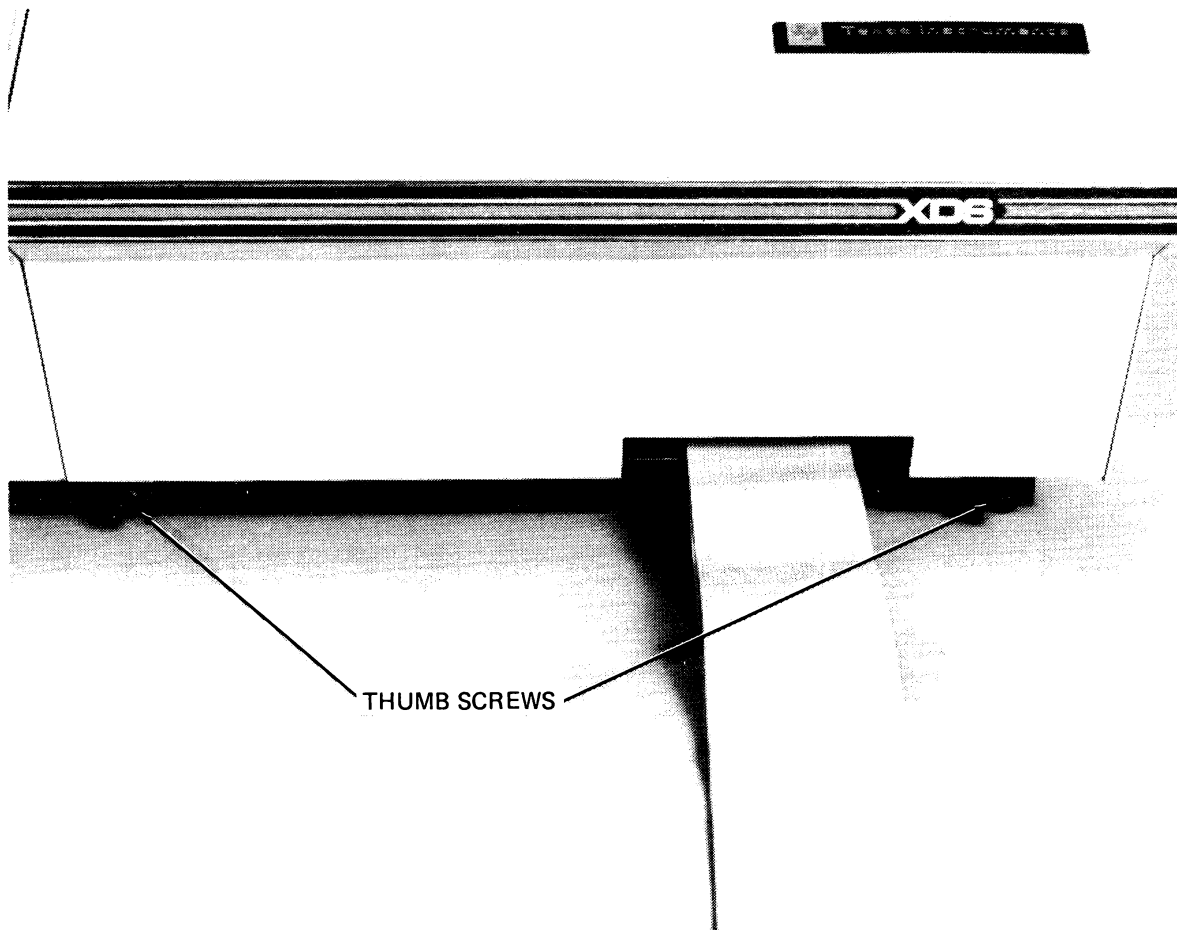

FIGURE 2-1. FRONT VIEW OF THE XDS
1. Locate and loosen the two thumb screws located on the bottom section of the front panel, reference Figure 2-1 for screw location. Note that the thumb screws are retained in the front panel. Use a flat blade screwdriver to loosen the screws.